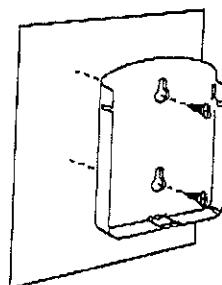

Fig.2
6. The unit can be fixed by mounting bracket provided. To mount the mounting bracket, drill two holes by placing the template on the desired location. Ensure holes aligned vertically. Insert screws into mounting holes, let the screws' head extend 3 mm (1/8 in) from the surface (Fig 2).